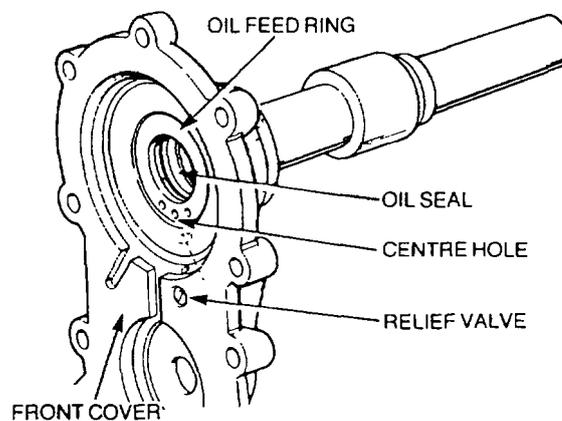

Figure 55 Oil Feed Ring and Relief Valve Installation
- m. Ensure the centre oil hole on the oil feed ring aligns with the oil delivery hole in the front cover, then using special tools 18G134 and 18G134DG, press in the oil feed ring (Figure 55).